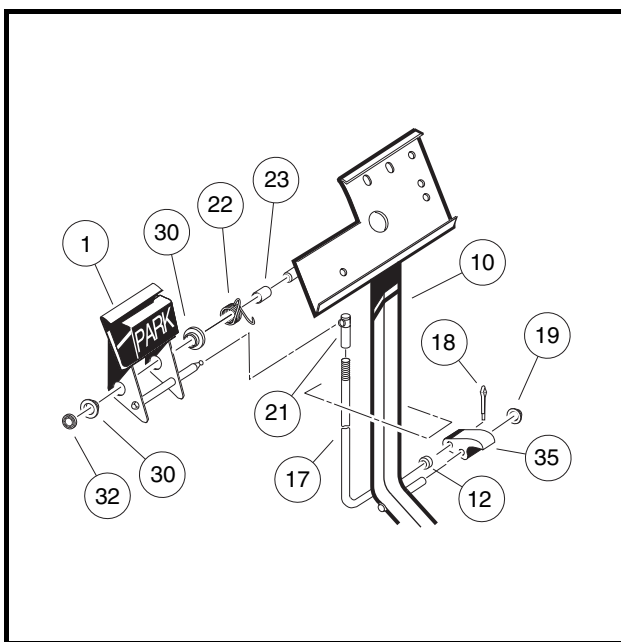
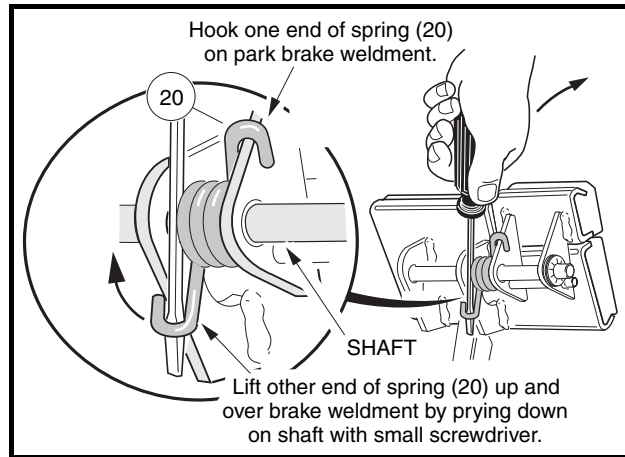

Figure 5-4 Park Brake Assembly
Figure 5-5 Torsion Spring Installation
NOTE: New push nuts (19) and (32) must be used when reassembling the park brake (**Figure 5-4, Page 5-4**).
- 3.2. To remove the park brake pedal (1), remove the push retainer nut (32), disconnect the torsion spring (22) (**Figure 5-4, Page 5-4**) and slide the pedal off of the shaft. See preceding **NOTE**.
1. From the bottom side of the floorboard, insert the park brake rod (17) through the brake pedal assembly opening as shown (**Figure 5-4, Page 5-4**). Then install the park brake pawl (35) onto the shaft on the brake pedal assembly (10) and also insert the park brake rod (17) into the park brake pawl.
2. Install the push nut (19) on to the park brake pawl shaft.
3. Install the spacer (23) and torsion spring (22) on the park brake pedal shaft on the brake pedal assembly.
4. Install the two bushings (30) in the park brake pedal and position the park brake pedal on the shaft on the brake pedal assembly weldment (10) (**Figure 5-4, Page 5-4**). Then attach the ends of the torsion spring to the park brake pedal and to the brake pedal weldment as shown (**Figure 5-5, Page 5-6**).
5. Install the push nut (32) on the park brake pedal shaft (**Figure 5-4, Page 5-4**).
6. Connect park brake rod (17) with ball joint (21) to the ball stud on the park brake pedal assembly (**Figure 5-4, Page 5-4**).